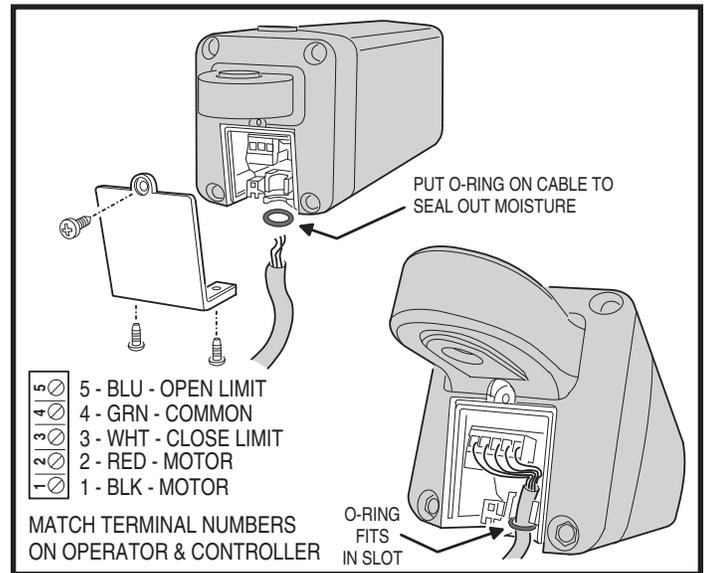

Figure 6. Interface Cable Connection
1. Remove the operator's wiring access plate (see Figure 6).
2. Connect the interface cable to Terminals 1-5 on the Controller (see wire colors and terminal numbers in Figure 6).
5. Connect the interface cable to the operator's terminal block matching the same colors and terminal numbers used in Step 2 (see Figure 6).